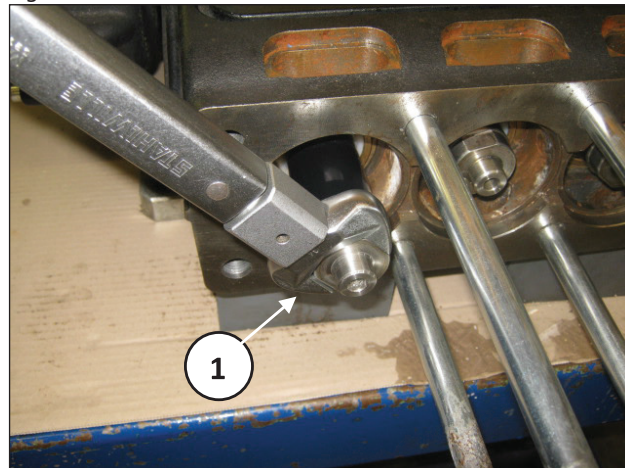

Fig. 129
Fit the piston spacer on the pump and tighten (pos. ①, Fig. 129).